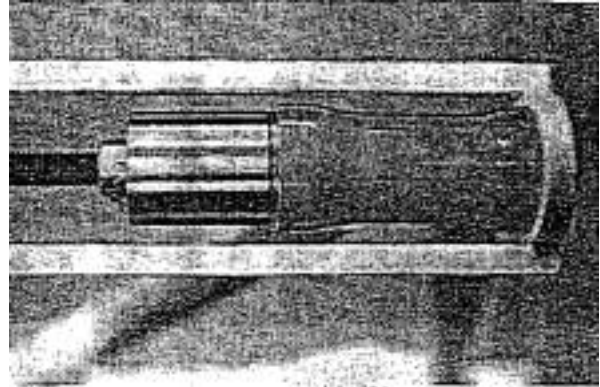

Figure 8: The headset tool installing a bearing into the headtube.
- B) 4. Place the cage assembly around the head tube as before and begin to press the bearing into place. Be careful to keep the bearing straight as it is inserted (see Fig. 8). The bearing should insert with a minimal amount of force. If the bearing begins to bind, it has become tilted. Loosen the threaded rod, rotate the bearing pusher 180°, and retighten slightly. In most cases, the bearing will now seat properly. If the bearing remains tilted, remove the bearing as in steps A 8 and A 9, and repeat step B 3. Do not force the bearing.